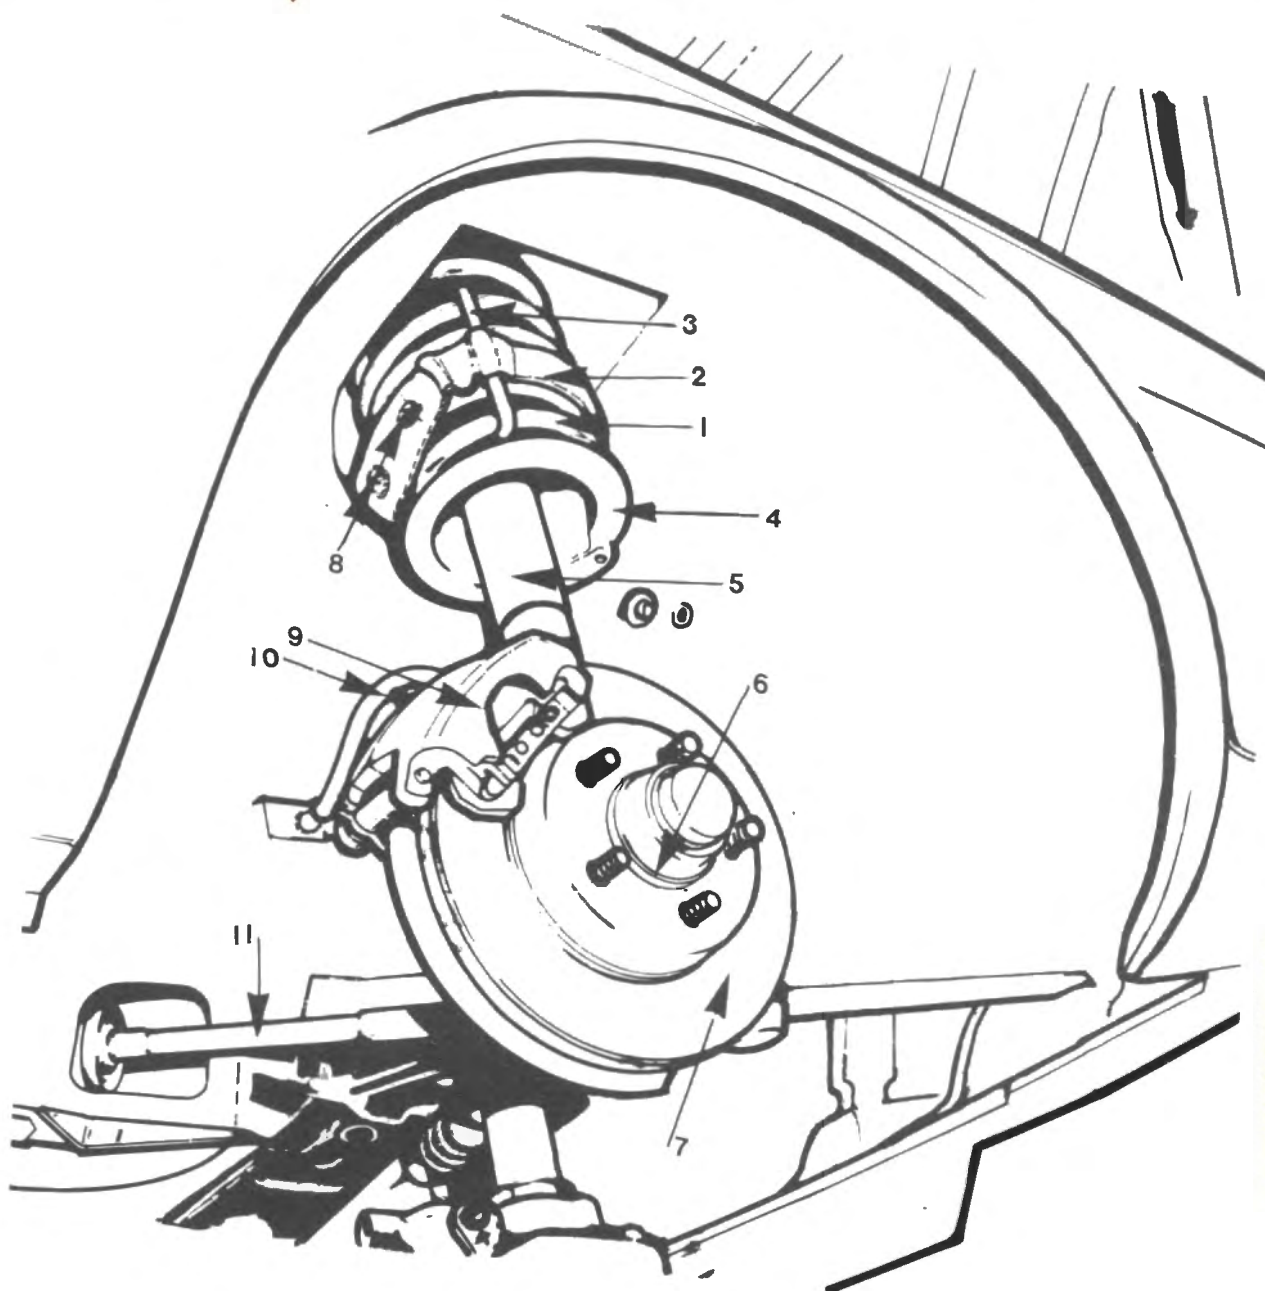

Fig. P-4
- 5 Insert the lower ends of the spring hooks so that five coils of the spring are secured and fasten the safety straps. Fig. P-4.